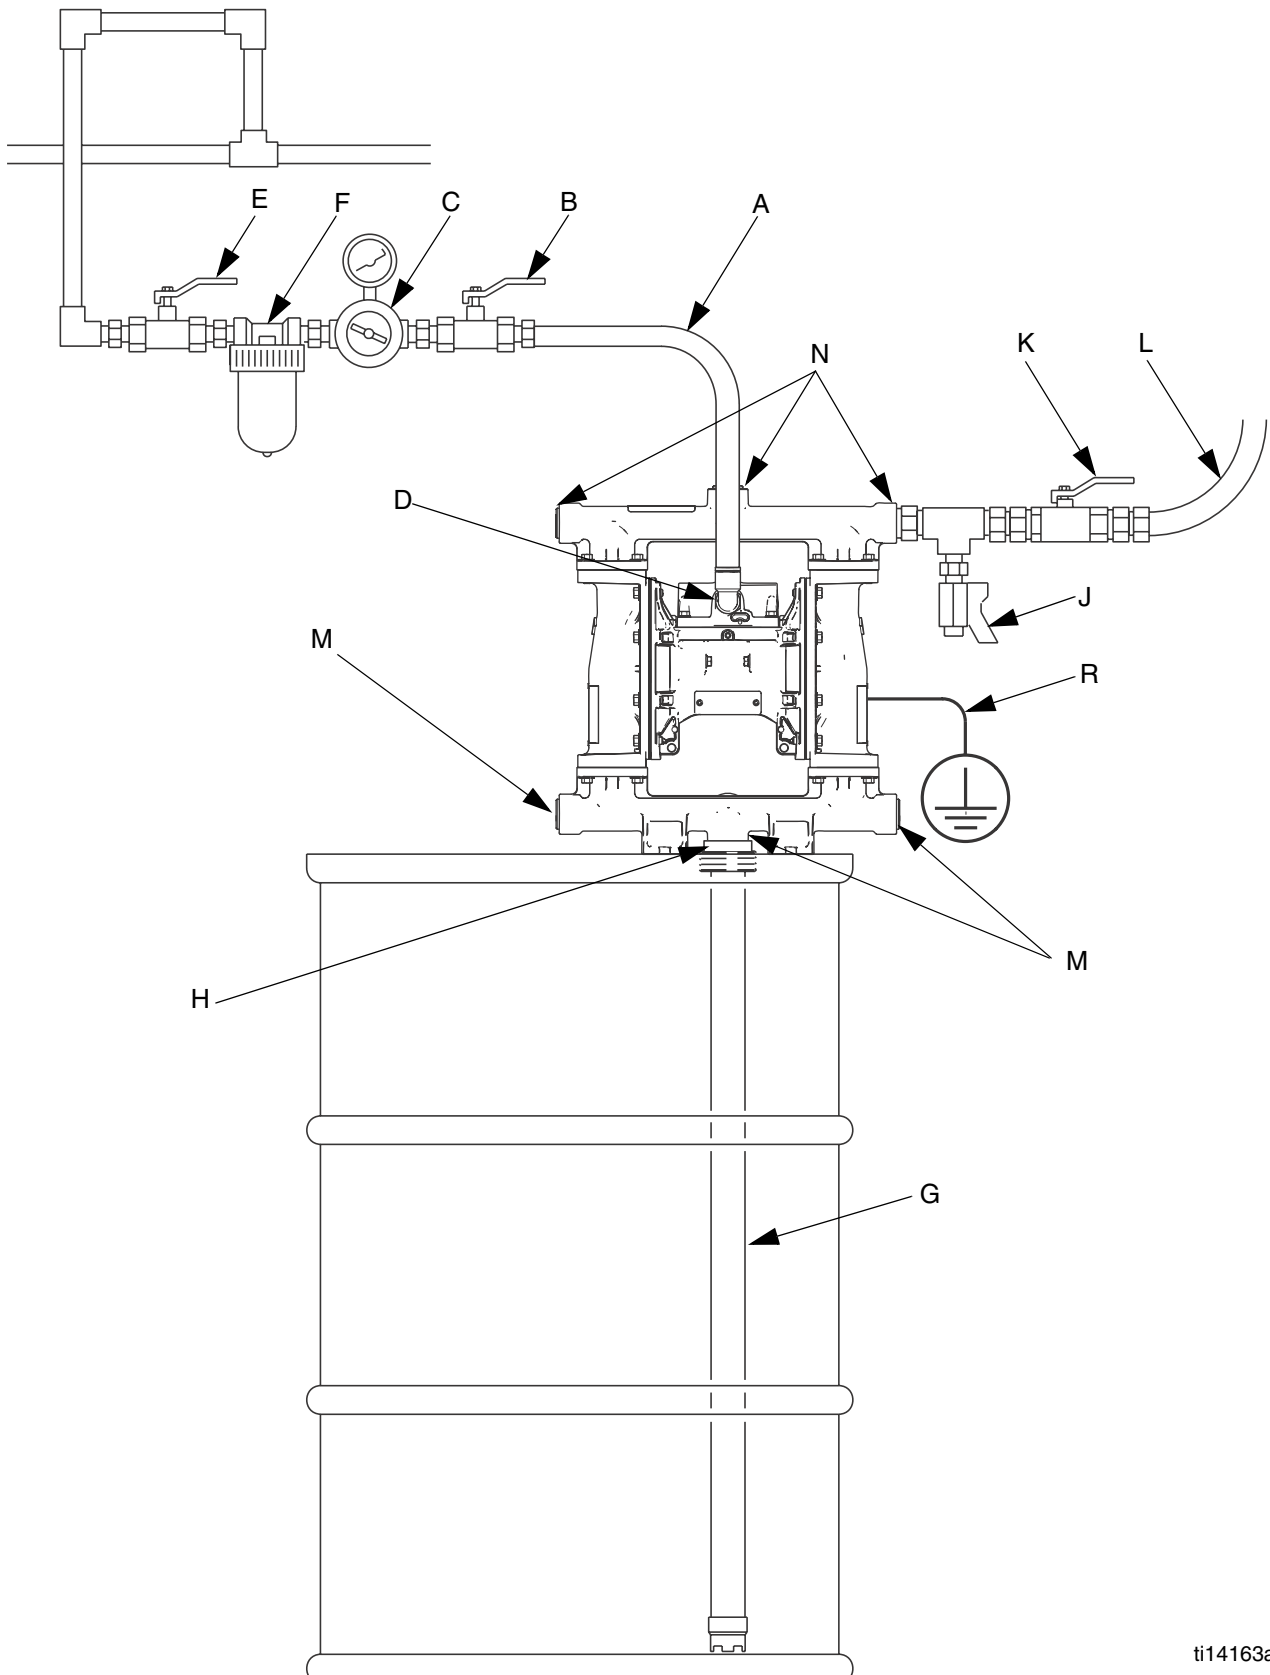
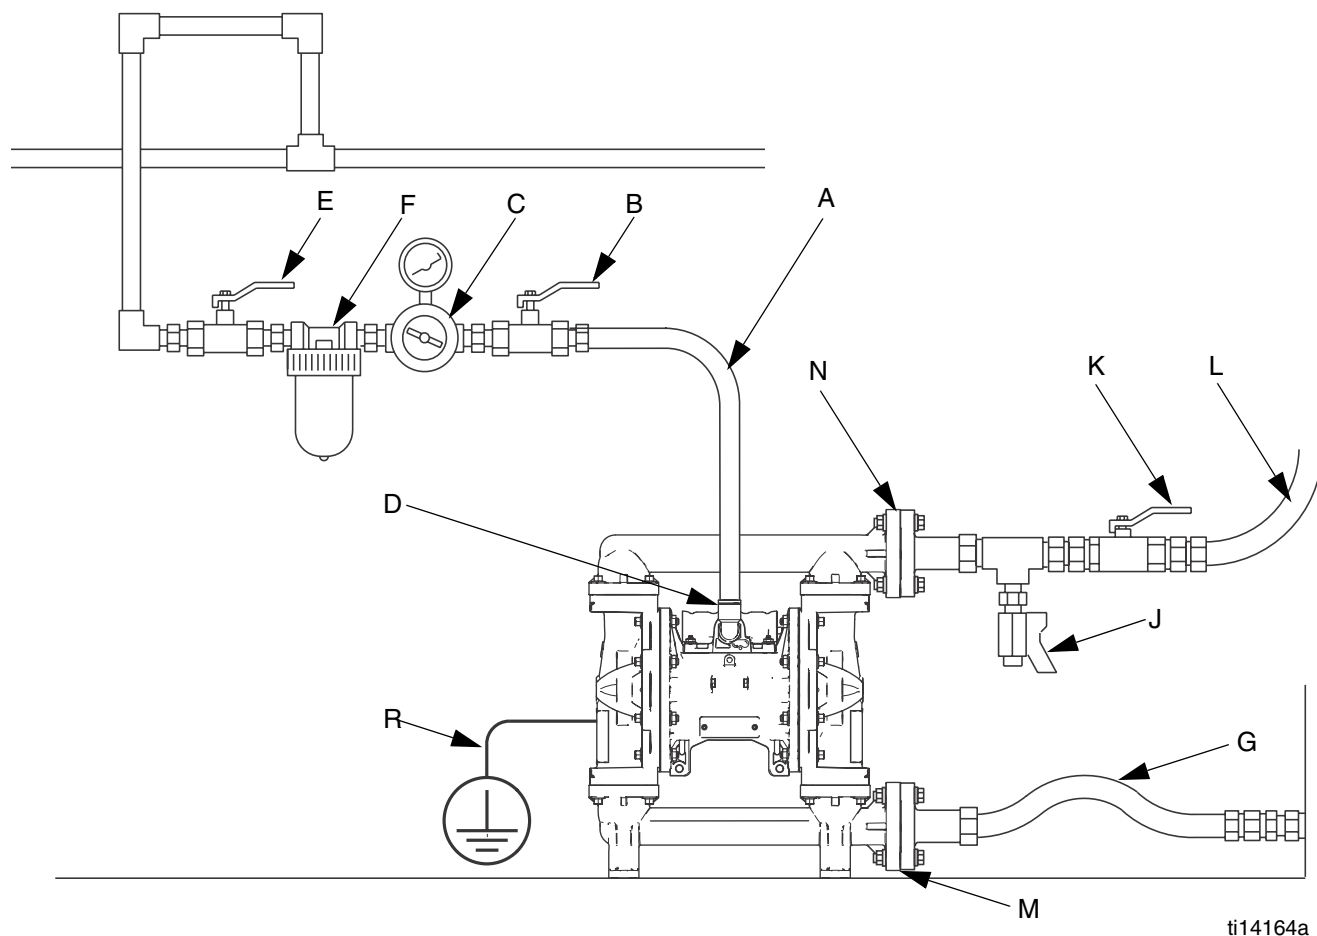

Fig. 3. Typical bung-mount installation (aluminum, 1050A, pump shown)
FIG. 4. Typical floor-mount installation (polypropylene, 1050P, pump shown)
The Typical Installations shown in FIG. 3 and FIG. 4 are only guides for selecting and installing system components. Contact your Graco distributor for assistance in planning a system to suit your needs.
See FIG. 3 and FIG. 4, pages 10 and 11.
Key for FIG. 3 and FIG. 4:
- M Fluid inlet (Aluminum, FIG. 3, four ports, one not visible; Plastic, FIG. 4, center or end flanges available; Hastelloy and stainless steel, not pictured, one port)
- N Fluid outlet (Aluminum, FIG. 3, four ports, one not visible; Plastic, FIG. 4, center or end flanges available; Hastelloy and stainless steel, not pictured, one port)
The fluid inlet and outlet manifolds each have four 1 in. npt(f) or bspt threaded ports (FIG. 3, M, N). Close off the unused ports, using the supplied plugs.
The fluid inlet and outlet manifolds each have a 1 in. raised face ANSI/DIN flange (FIG. 4, M, N) in either a center or end location. Connect 1 in. standard flanged plastic pipe to the pump. See FIG. 5.